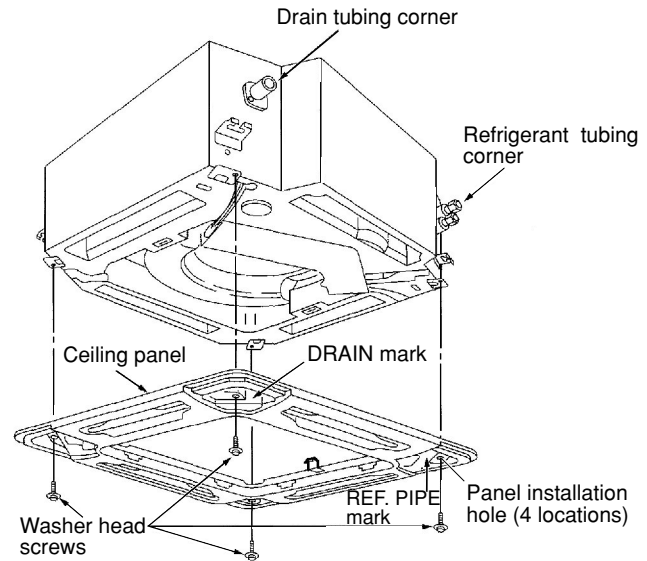

Fig. 9-17
(2) Align the panel installation holes and the unit screw holes.
(3) Tighten the supplied washer head screws at the 4 panel installation locations so that the panel is attached tightly to the unit. (Fig. 9-17)
(4) Check that the panel is attached tightly to the ceiling.